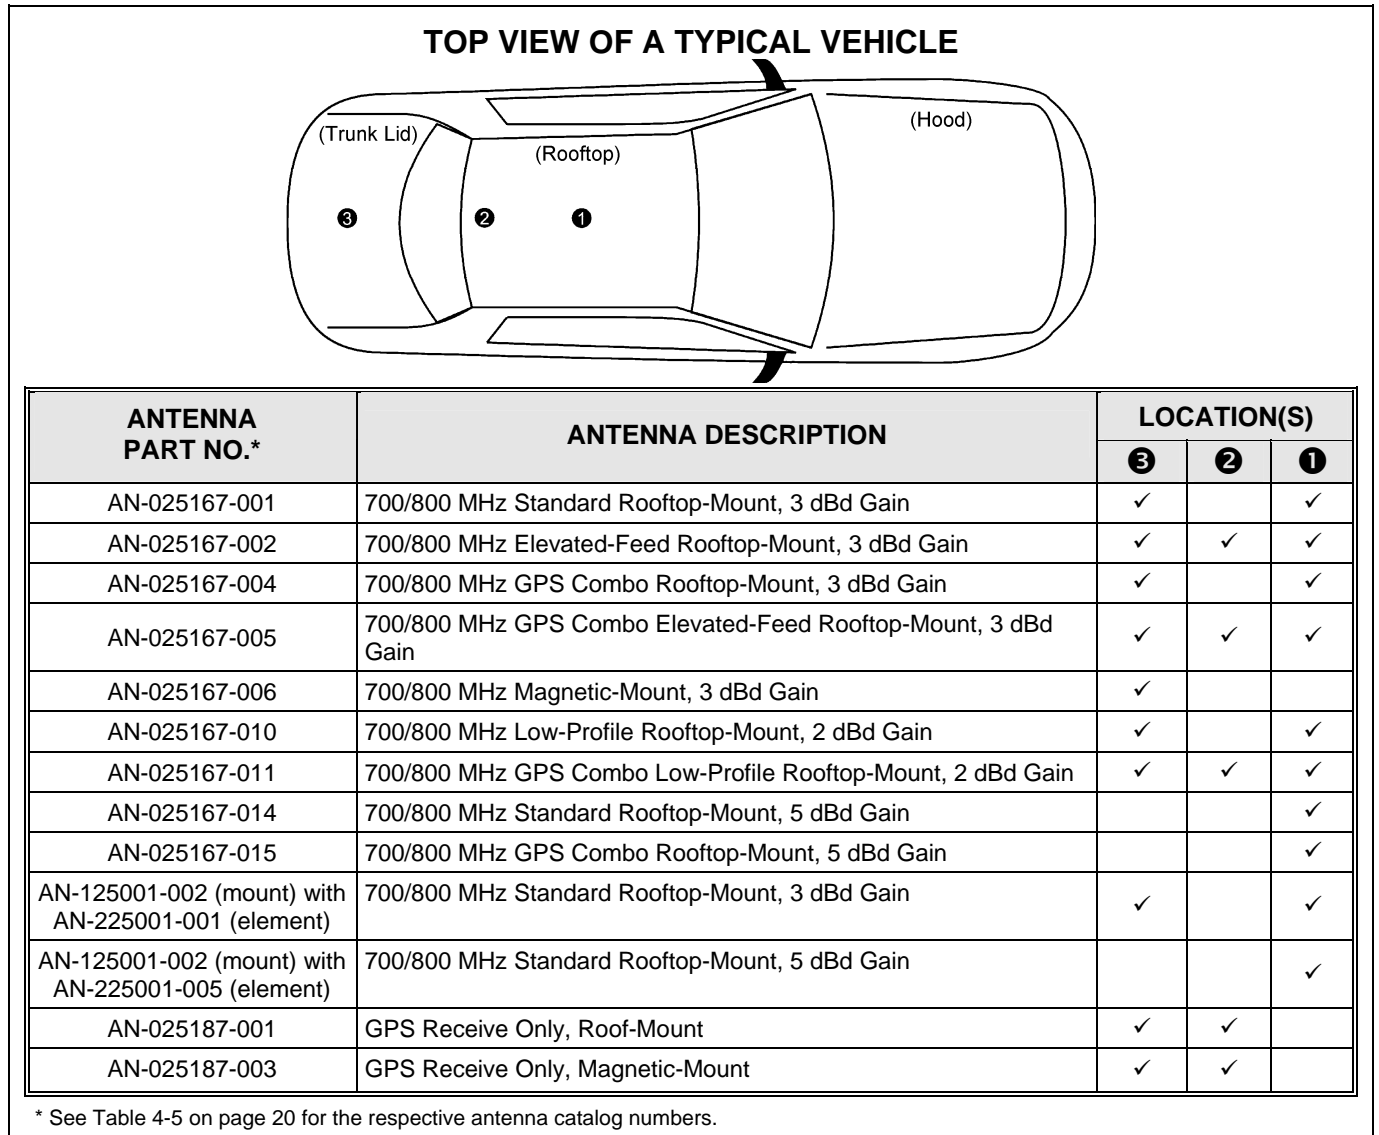

Figure 6-1: Recommended Antenna Mounting Locations with Antenna Part Numbers
At this time, review all information presented in the REGULATORY AND SAFETY INFORMATION section of this manual (see page 6). A transmitting antenna must be installed in accordance with the guidelines presented in the REGULATORY AND SAFETY INFORMATION section. Use Table 1-1 on page 8 and Figure 6-1 below as a guide for determining the best possible mounting configuration/location in order to reduce human exposure to radio frequency (RF) electromagnetic energy during transmit mode.
Antennas must be mounted in one of three possible locations on the vehicle. Figure 6-1 shows the recommended locations and antenna part numbers. Also, see Table 4-5 for additional information. Always follow the antenna manufacturer’s instructions when mounting an antenna.
The center of the vehicle's roof is the best location for a rooftop-mount antenna (location ❶ in Figure 6-1). For optimal performance, the mounting area under the antenna must be a flat with a minimum radius of six (6) inches of metal ground plane. It must be located directly in the center of the roof to minimize human exposure to RF electromagnetic energy. Other obstructions such as a light bar or another antenna may prevent the antenna from being mounted in the direct center of the roof. In this case, the antenna should be mounted a minimum of one foot away from and behind the obstruction but in the middle of the roof with respect to the left and right sides of the vehicle (location ❷ in Figure 6-1).
Certain vehicles do not allow for the antenna to be placed in the center or center-rear of the roof. In this case, the next best location for the antenna is in the direct center of the trunk lid (location ❸ in Figure 6-1). In this case, an elevated-feed-point antenna is recommended. Although this type of antenna does not require a metal ground plane, it must be located directly in the center of the trunk lid to minimize human exposure to RF electromagnetic energy.
Table 4-5 (page 20) and Figure 6-1 (page 27) list the mobile radio antennas available for use with the radio. As presented in the previous section, various mounting locations exist. Optimal performance is achieved via a rooftop antenna mounted in the direct center of the motor vehicle's roof. The following mobile antenna installation procedure is recommended:
A combination ("combo") antenna kit includes a GPS antenna built into the base of the mobile antenna. Refer to Table 4-5 (page 20) and/or Figure 6-1 (page 27) for available combo antennas.